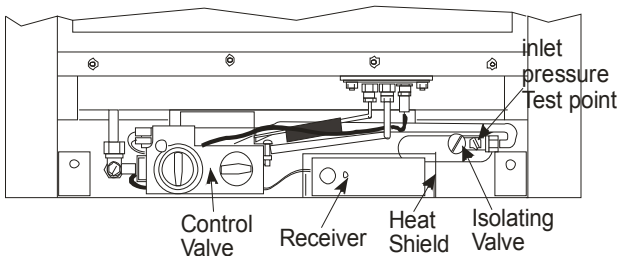

Figure 34
3. Feed the cable from the receiver unit to the spade terminals on the control valve, keeping the cable clear of the underside of the combustion chamber. The cable connectors must be matched to the appropriately sized spade connector (see **Figure 34**).